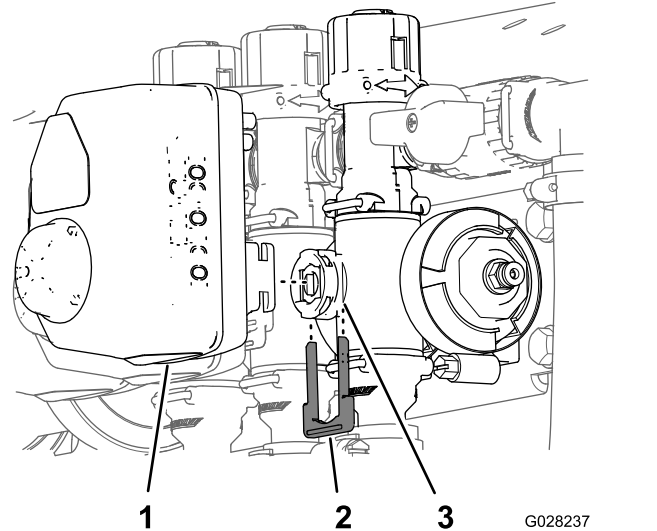

Figure 97
3. Remove the retainer that secures the a actuator to the manifold valve for the rate control valve, agitation valve, master-boom valve , or boom-section valve (Figure 97).